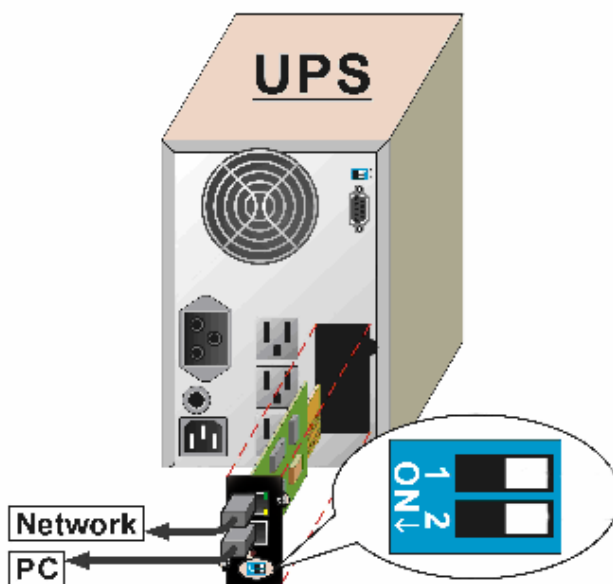

Figure 1: RemotEye II/Internal
3. Secure the printed circuit board using the UPS supplied screws.(See Figure 1: RemotEye II/Internal)